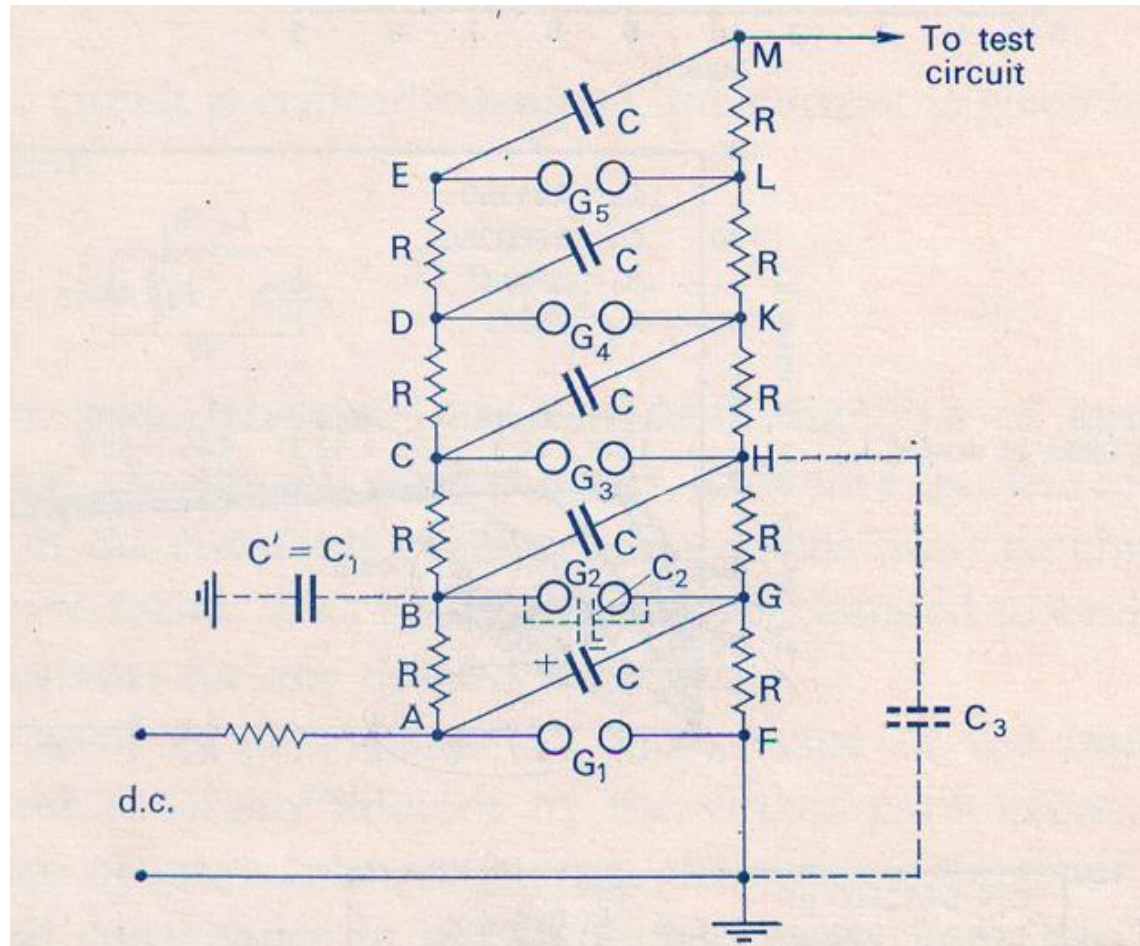

Fig: 8
A typical circuit is presented in **Fig.8** which shows the connections for a five-stage generator
Assume the resistors as open circuits and the stray capacitances negligible in comparison with the stage capacitors. Let (A) in **Fig.8** be charged to + V